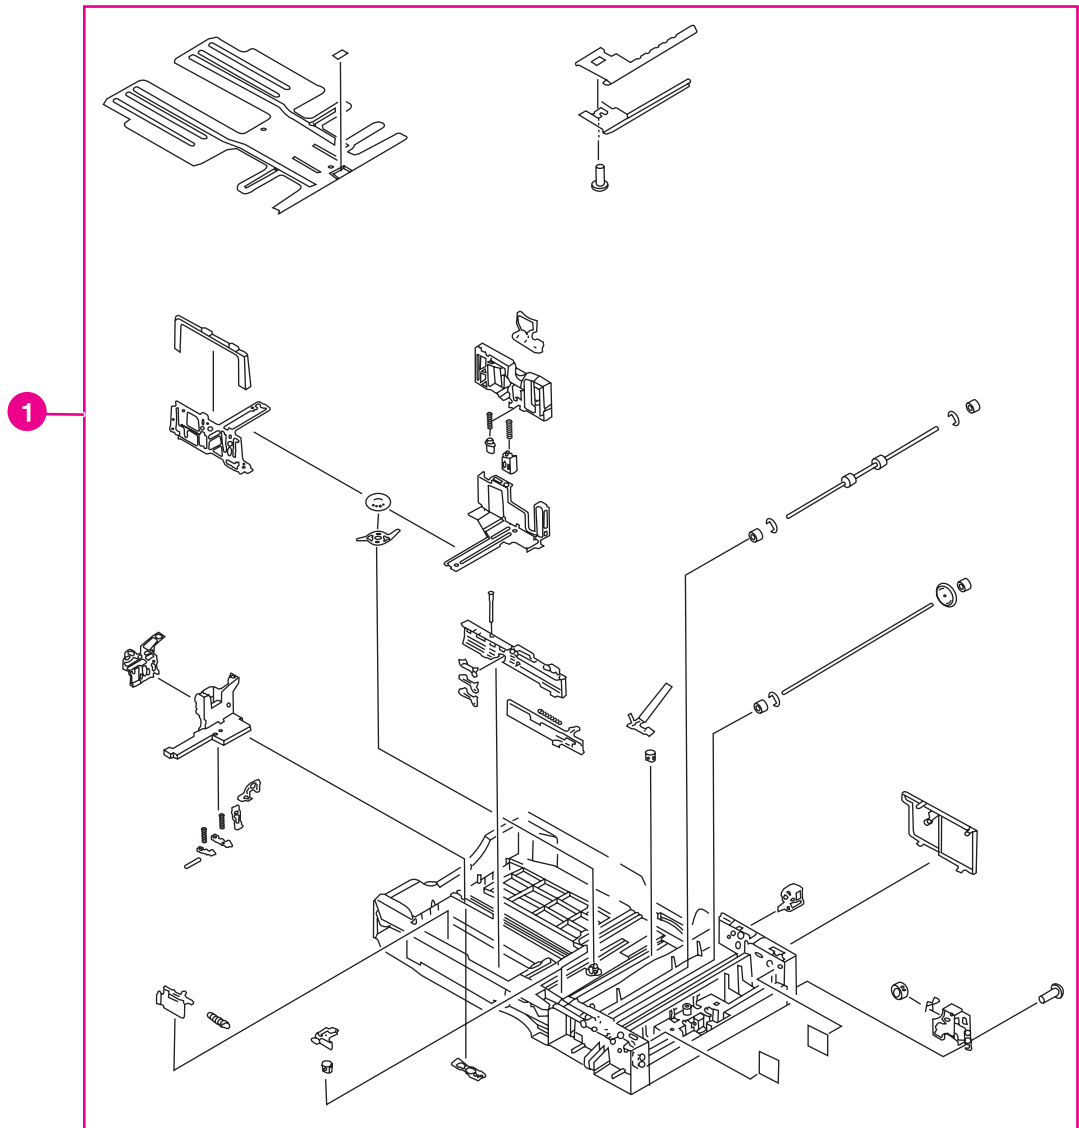
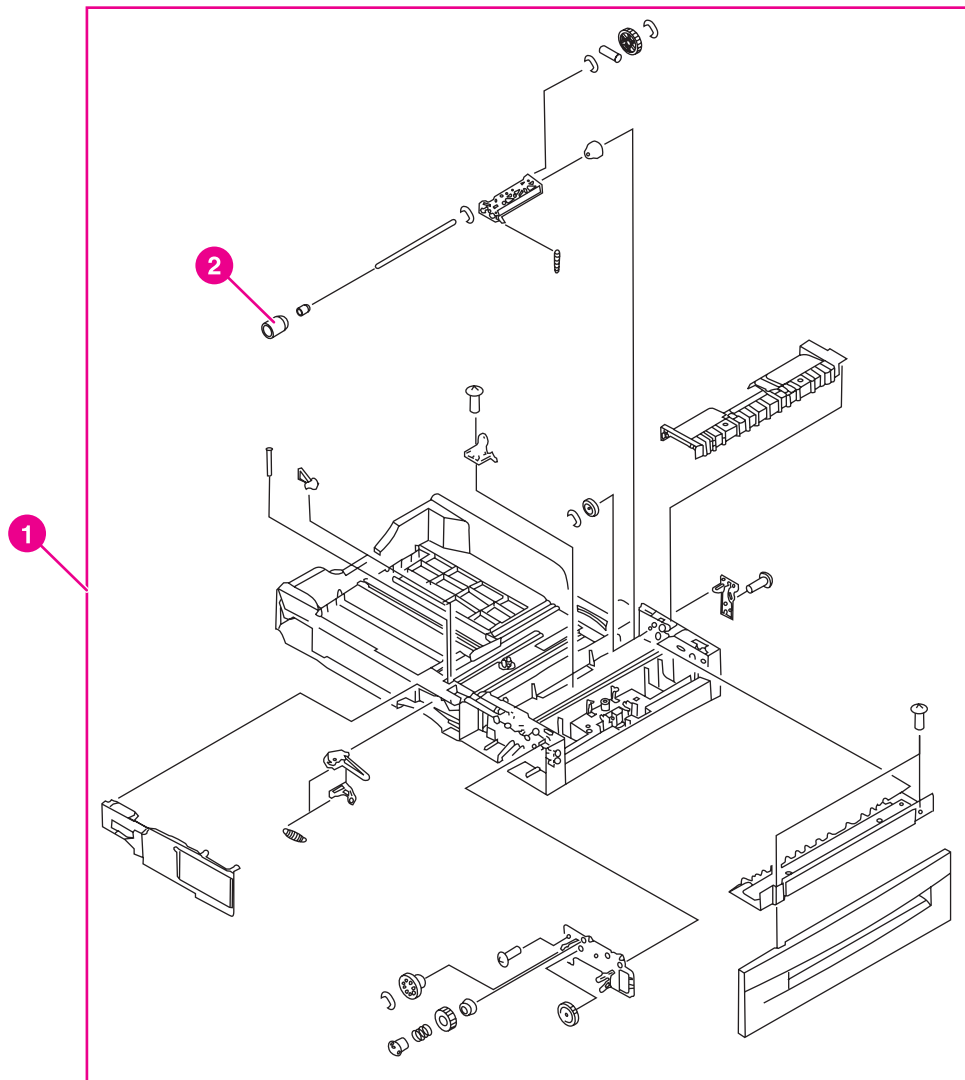

Figure 8-29. 500-sheet paper feeder cassette (1 of 2)
Figure 8-30. 500-sheet paper feeder cassette (2 of 2)
Solenoid and clutch lists parts shown in Figure 8-29. 500-sheet paper feeder cassette \(1 of 2\) and Figure 8-30. 500-sheet paper feeder cassette \(2 of 2\). If you order a replacement cassette (item 1), you will receive all parts shown in both figures.